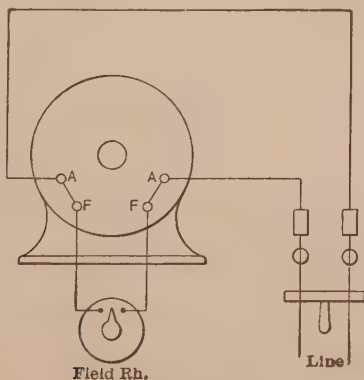

FIG. 161.
**Prob. 35.** Is the shunt generator in Fig. 161 correctly connected? If not, make the necessary changes.